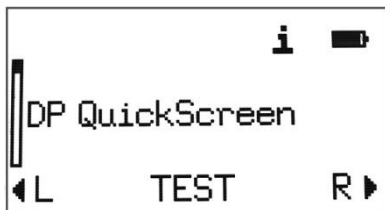
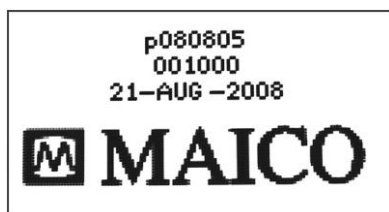

Figure 16
Figure 17
2. From the main menu, select the desired protocol or series using the up or down arrows on the navigator (Figure 16).
A flash screen (Figure 17) showing the firmware version (first line), serial number (second line), and date set in the instrument (third line) will illuminate briefly before showing the main display (Figure 16).